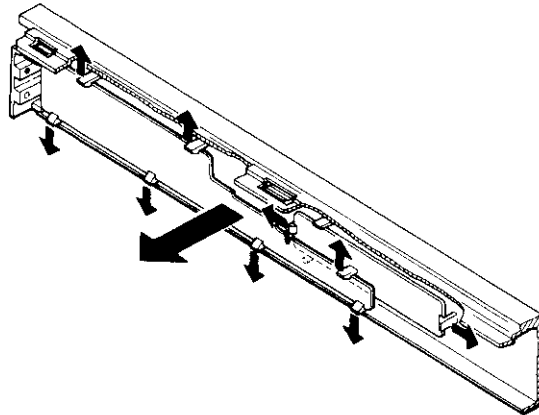

Fig. 8
3. How to remove the DISPLAY UNIT (Fig. 8)